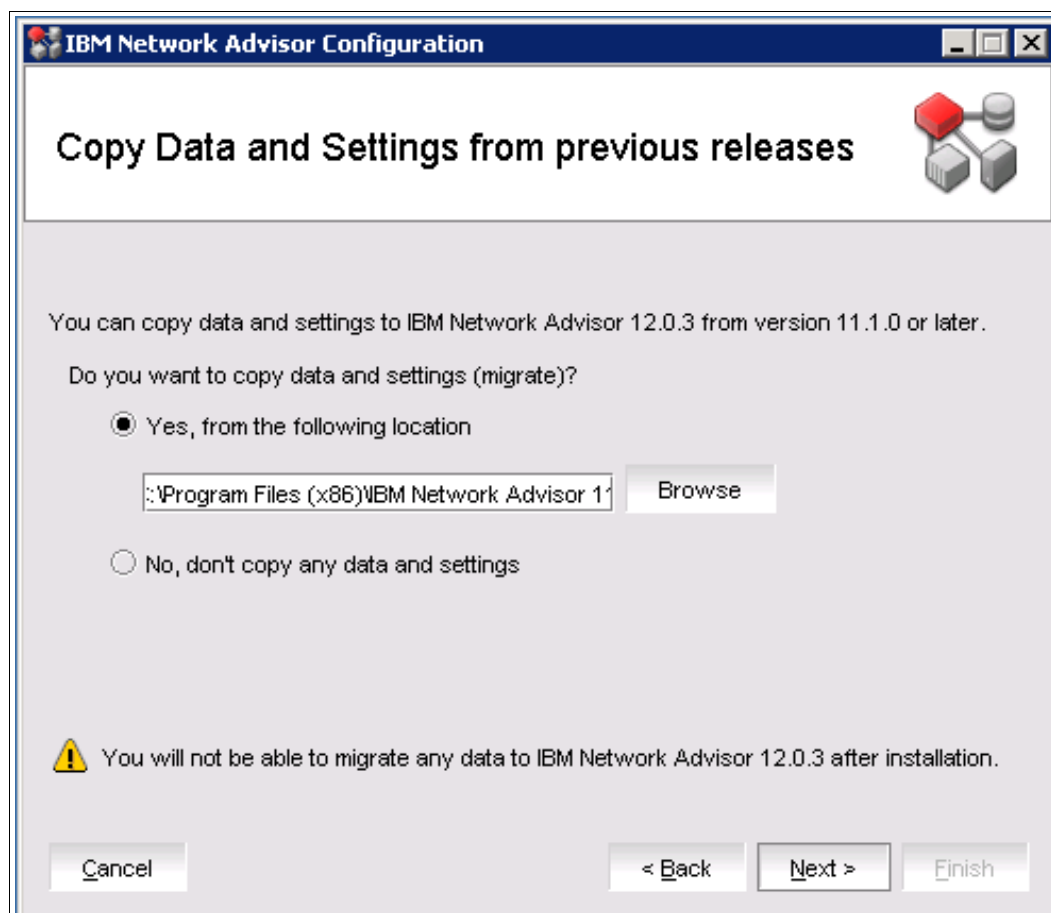

Figure 3-22 Copy Data and Settings from previous releases window
7. The Copy Data and Settings from previous releases window opens and prompts you for a copy of the data and settings from your previous installation, as shown in Figure 3-22 on page 95. You must provide the folder location where the previous version was installed. It is not possible to migrate the data from a previous version after the installation.